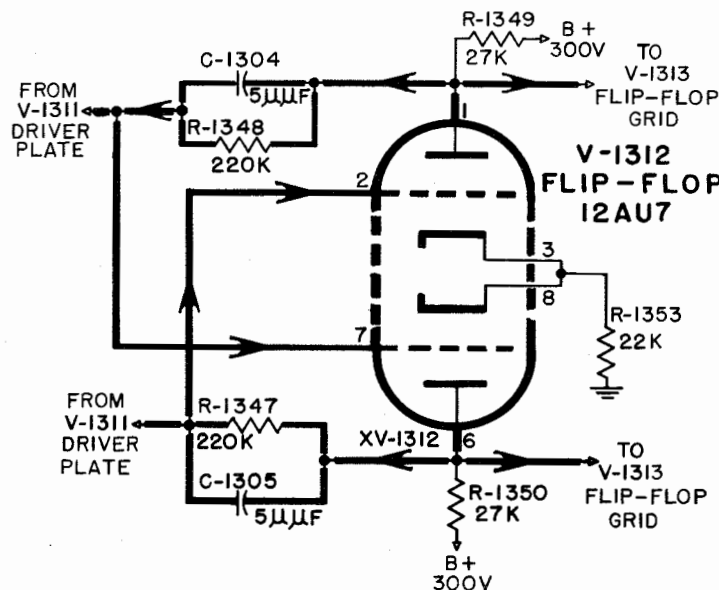

Figure 2-52. Flip Flops V-1312, V-1320, Simplified Schematic Diagram
(14) FLIP-FLOPS, V-1312 AND V-1320 (CM-32/FRR-24). (See Figure 2-52).—A separate flip-flop circuit is provided for each channel. Each flip-flop operates in the same manner thus the following description of flip-flop V-1312 is also applicable to the other flip-flop V-1320. The Mark-Space voltages are not true square wave shape, but have an appreciable rise time. The function of the flip-flop circuit V-1312, a type 12AU7 dual triode, is to produce a square wave with a shorter rise time. This voltage will be the approximate shape of the Mark and Space voltages appearing at the plate of V-1311. Coupling between V-1312 and V-1311 is made direct from plate to grid. This circuit operates differently from conventional flip-flop action in that a sustained pulse voltage is required to trigger the circuit.